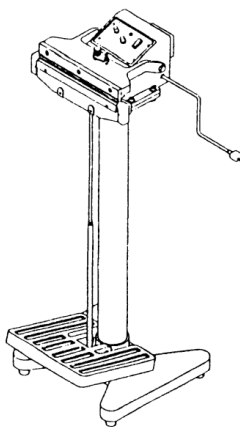

Figure 5. Attach pulling pole
3. Attach the tension rod (pulling pole) to the upper puller (Figure 11, Item #12) which is located under the base. Next, attach the rod to the foot pedal. (Figure 5).